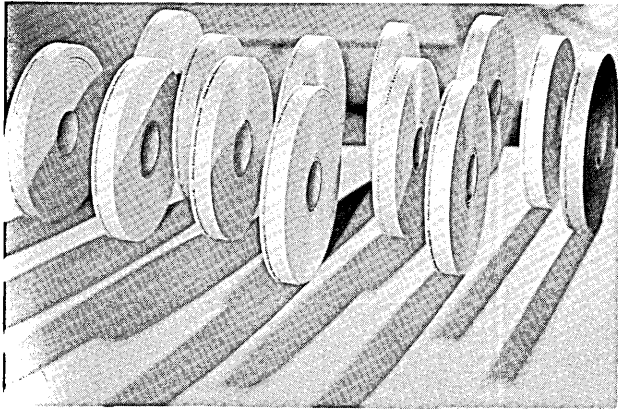

Figure 36. Flexowriter Tape.
**Flexowriter Tape** (See figure 36) - Available in three widths  $11/16''$  (5 channels),  $7/8''$  (6 and 7 channels), and  $1''$  (8 channels). Paper tape is oil-impregnated for flexibility and long wear. It is not injured by folding, and is ideally suited for mailing, filing and long term storage. Paper tape comes in rolls, eight inches in diameter, holding approximately 1000 feet. Six colors are available to the customer: pink, yellow, green, grey, blue, and buff.